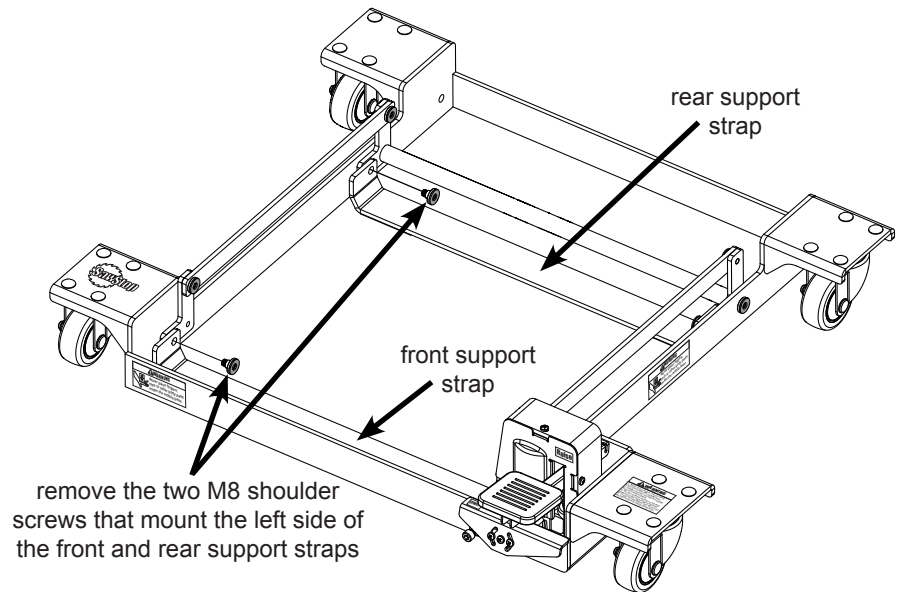

Fig. 6
6. The conversion kit includes hold-down brackets to hold the saw in the mobile base and you must now attach the hold-down brackets to the mobile base. Begin by removing the two M8 shoulder screws that mount the left side of the front and rear support straps to the frame with a 5 mm hex key, as shown in Fig. 6. The shoulder screws may be difficult to remove because they were installed with a thread adhesive. The two M8 shoulder screws may be discarded.